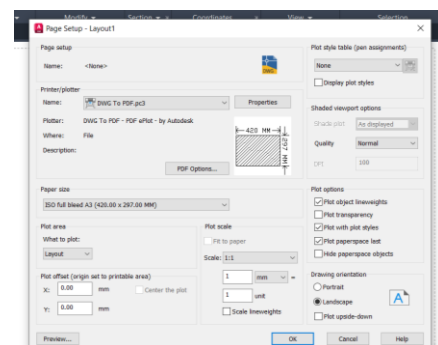

Figure 8 Page setup – Layout 1
- **Step 2:** After applying Modify to Layout 1, the following changes have to be made (Figure 8):